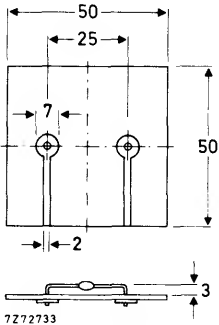

Fig. 2 Mounted on a printed-circuit board.
2. Thermal resistance from junction to ambient when mounted on a 1,5 mm thick epoxy-glass printed-circuit board; Cu-thickness $\geq 40\text{ }\mu\text{m}$; Fig. 2